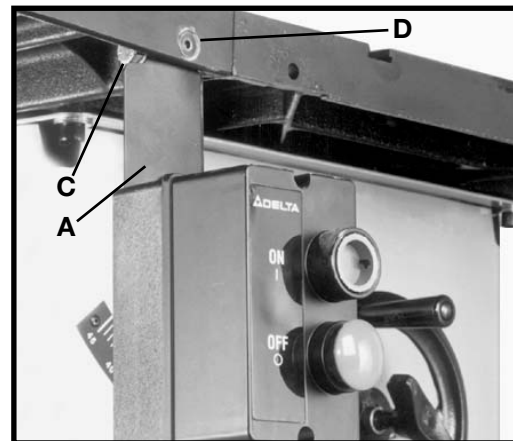

Fig. 8
4. Attach the side of switch bracket (A) Fig. 8, to the inside of extension table at the front of the saw using the 5/8 x 1-1/4" screw and flat washer (C), which were removed in STEP 3. Tighten screws (C) and (D).